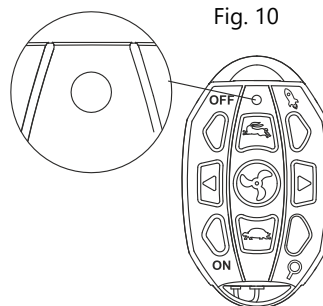

Fig. 10
4. Press 'OFF' button to turn of remote control. Light is now off. (Fig. 10)